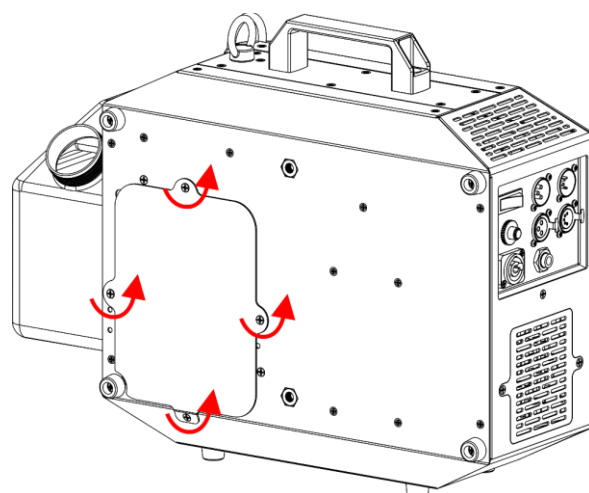

Fig. 13
08) Unscrew the 4 screws of the metal tank plate on the backside of the device, as shown in Fig. 13.